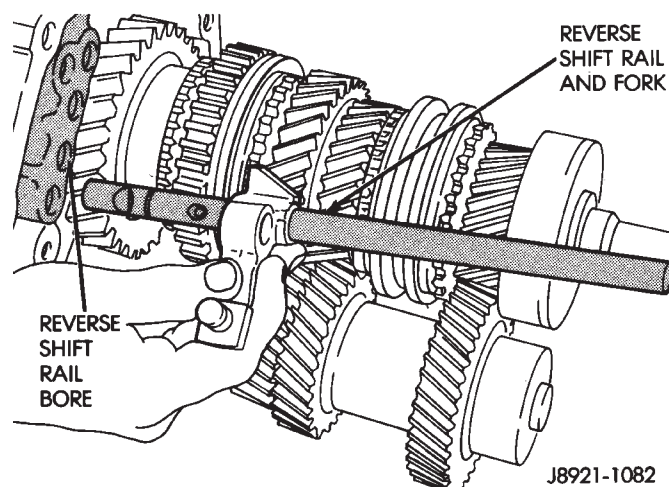

Fig. 87 Installing Reverse Shift Rail And Fork
- (2) Install reverse shift rail in intermediate plate (Fig. 87).